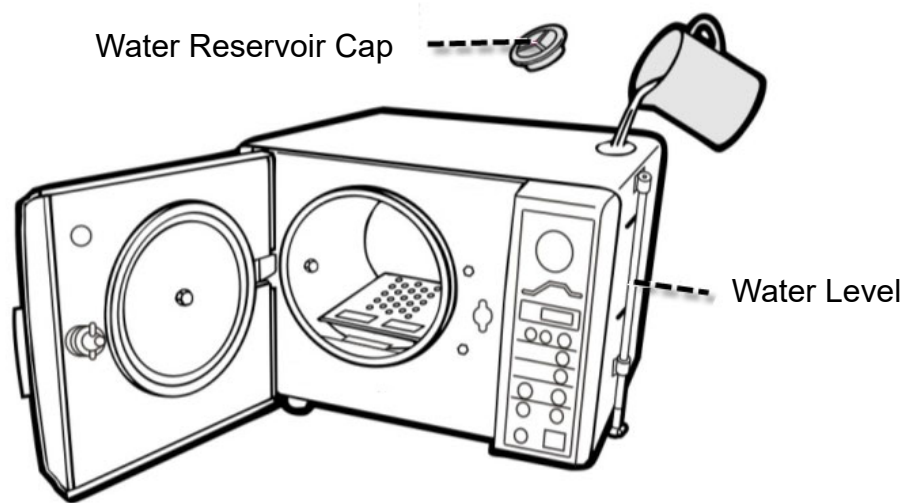

Figure 2
A. Open the water reservoir cap; pour distilled water into the water reservoir as Figure 2.